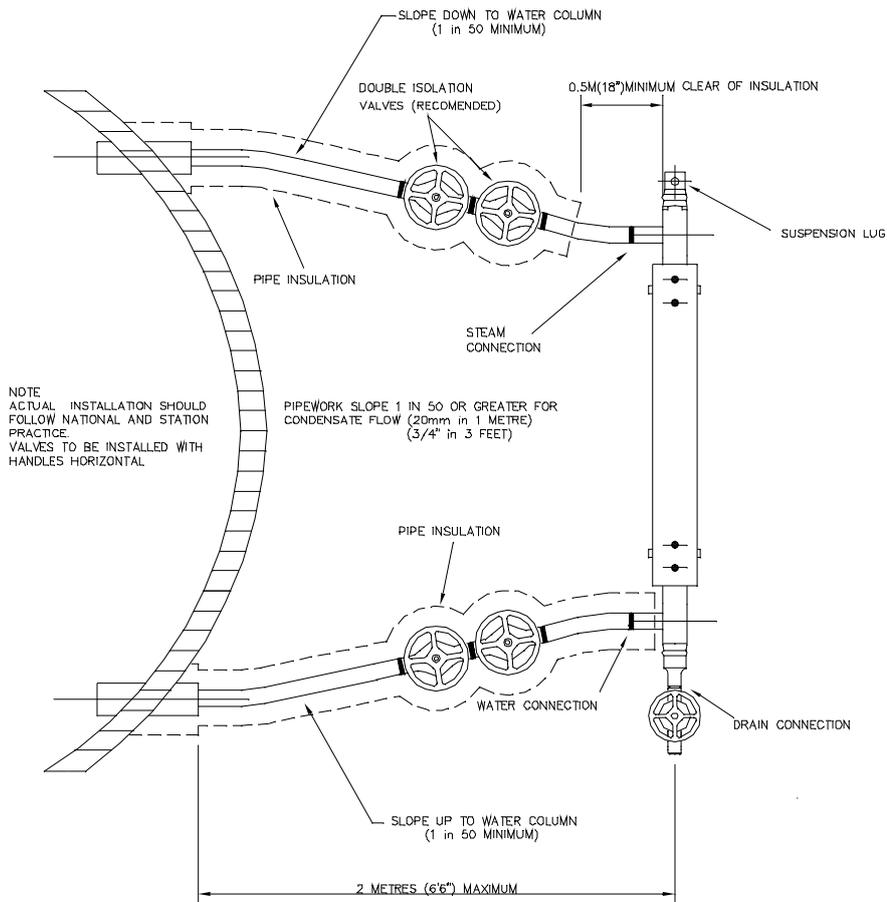

Figure 2.8: Manifold connection details
| FIGURE 2.8: MANIFOLD CONNECTION DETAILS..... | 2-10 |
This particular system uses a **sidearm manifold**¹ for detecting intermediate water levels between high and low. Connection information for the manifold pipework is given in Figure 2.8.
- The connecting pipework must be sloped as indicated in Figure 2.8. This is done to ensure a flow of condensate through the manifold
- The connecting pipework must be insulated, as shown by the hatched marking in Figure 2.8.